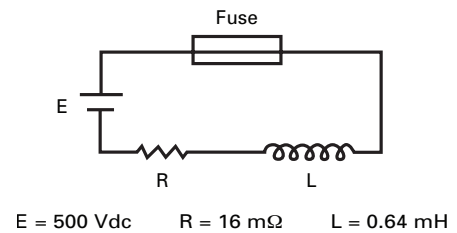

Figure I5. Calculation example circuit.
R = 16 mΩ circuit resistance in Figure I5
0.64 mH = circuit inductance from Figure I5
16 mΩ = circuit resistance from Figure I5